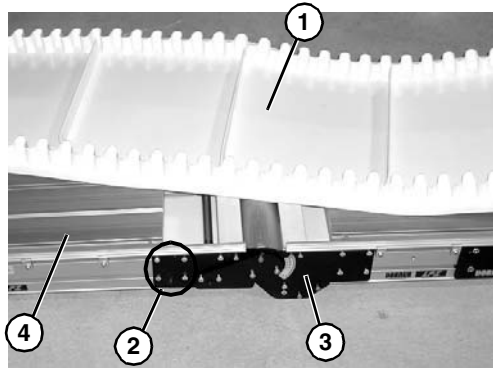

Figure 7
3. Roll out conveyor belt (**Figure 7, item 1**). Loosen (4) screws (**Figure 7, item 2**) on both sides of knuckle (**Figure 7, item 3**). Slide frame (**Figure 7, item 4**) into knuckle (**Figure 7, item 3**). Tighten screws (**Figure 7, item 2**) to 60 in-lb (7 Nm) on both sides of conveyor.